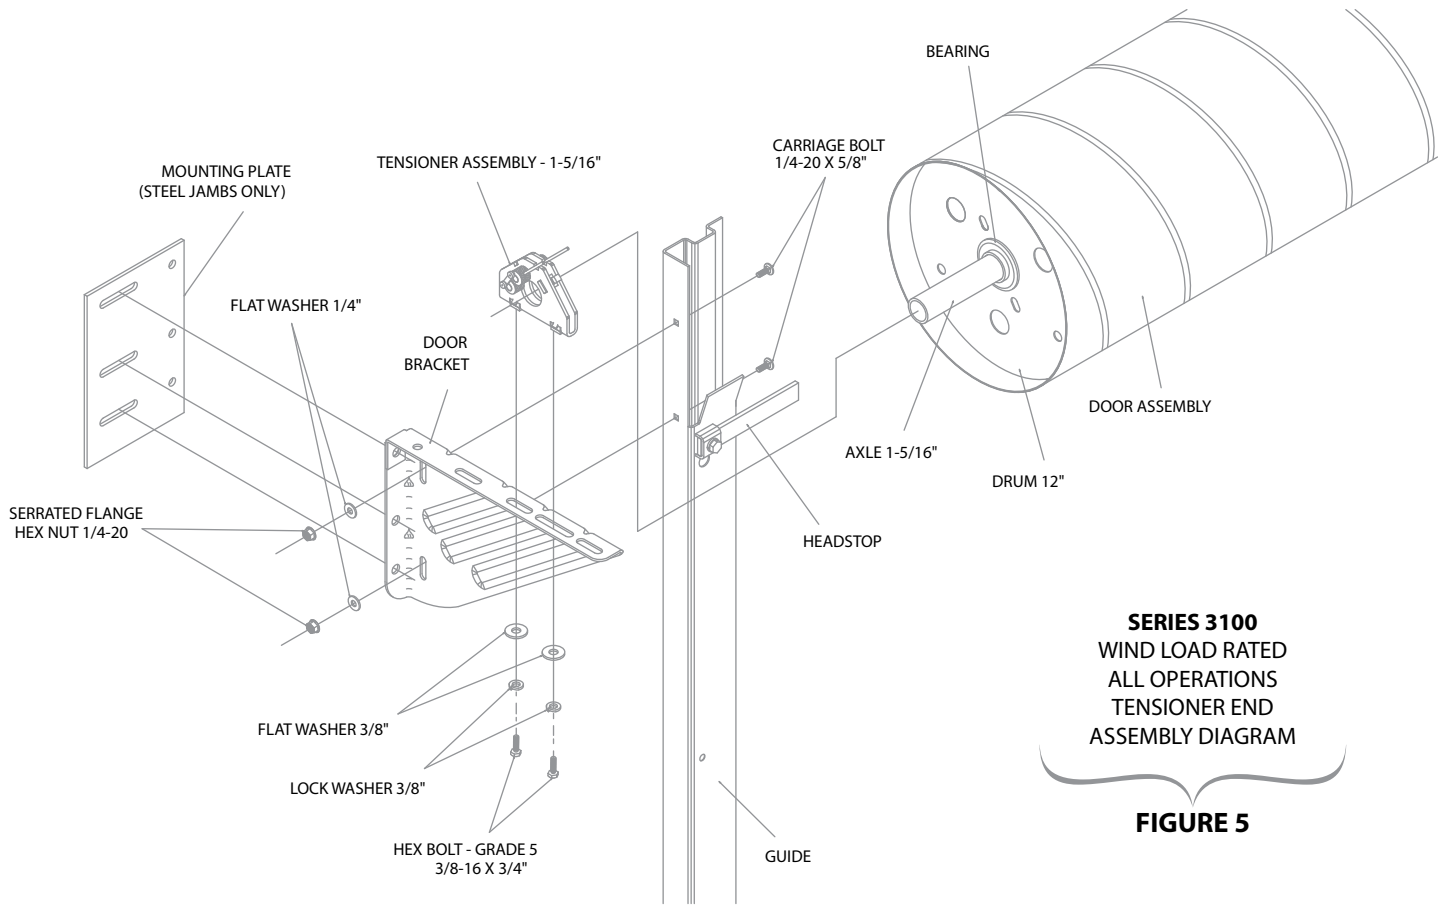

FIGURE 5
- A. Attach door brackets to guides, locating top surface of bracket 2" below top of guide. Use 2 each 1/4-20 x 5/8" carriage bolts, 1/4-20 serrated flange hex nuts and 1/4" flat washers per bracket for tensioner end and the non-tensioner (drive) end for push-up operation. **See figures 5 and 6.**
- A. Slide head stop from outside of each guide. **See figures 5 through 8.**